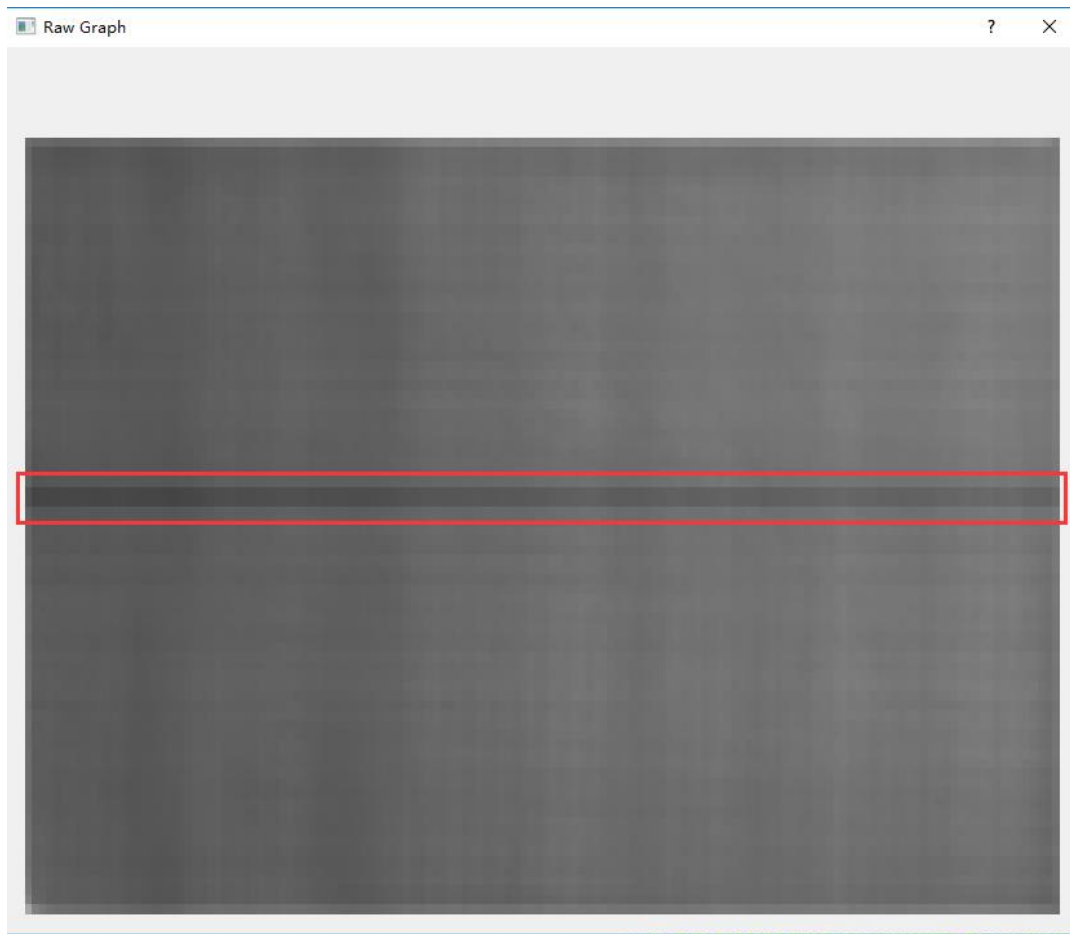

Figure18. touch foil shot circuit
(3) If Raw Graph shows two continuous channels (color difference from adjacent channels), as shown in figure 18. That means touch foil has short circuit. If there is no abnormal connection of touch foil or circuit board failure.